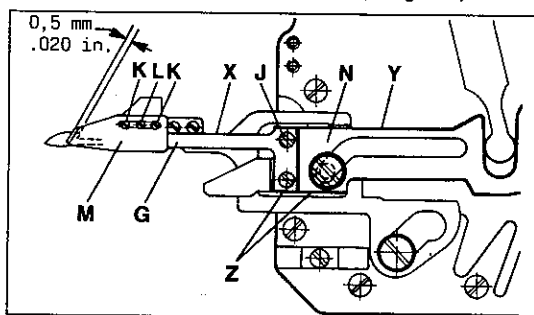
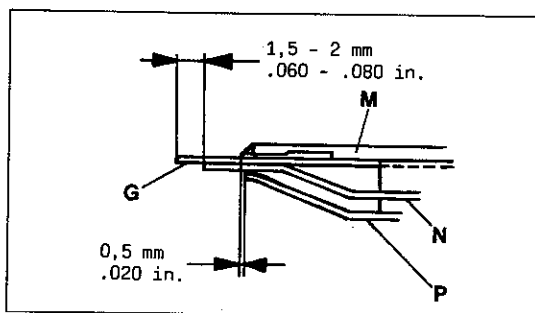
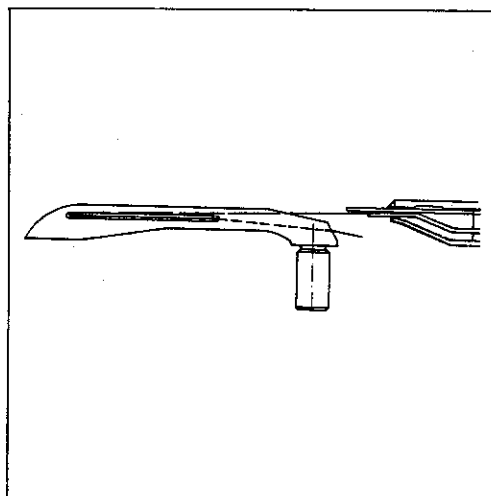

Fig.50
Fig.52
Fig. 59
2.2 The lower knife (G, Fig. 50) is set correctly, when its edge (X) is parallel to edge (Y) of lower knife holder (H) and edge (Z) of lower knife is in line with edge (Z) of lower knife holder. After loosening screws (J, Fig. 50) the lower knife (G) can be aligned accordingly. Retighten screws.
2.3 Loosen screws (K and L, Fig. 50) for making the following settings:
Besides this the distance between the tip of lower knife (G, Fig. 52) and the front edge of leaf spring (N) should be 1.5 to 2 mm (.060 to .080 in.). Now retighten screws (K, Fig. 50).
Adjust screw (L, Fig. 50) to securely clamp the looper thread as shown in Fig. 59.
Offset the front edge of leaf spring (P, Fig. 52) by 0.5 mm (.020 in.) from the tip of upper knife (M).
Set stop (V) with screw (W) so that the leaf springs (N and P, Fig. 52) below the knives have enough clearance to the looper when moving to the left.
Stellen Sie den Anschlag (V) mit der Schraube (W) so, daß die Blattfedern (N und P, Fig. 52) unter den Messern bei ihrer Bewegung nach links genügend Abstand zum Greifer haben.
After being cut the looper thread must be clamped as shown in Fig. 59. The tension of the leaf spring for clamping the looper thread can be adjusted with screw (L, Fig. 50).
Nach dem Abschneiden muß der Greiferfaden, wie in Fig. 59 gezeigt, geklemmt sein. Die Spannung der Blattfeder zum Klemmen des Greiferfadens kann mit der Schraube (L, Fig. 50) eingestellt werden.